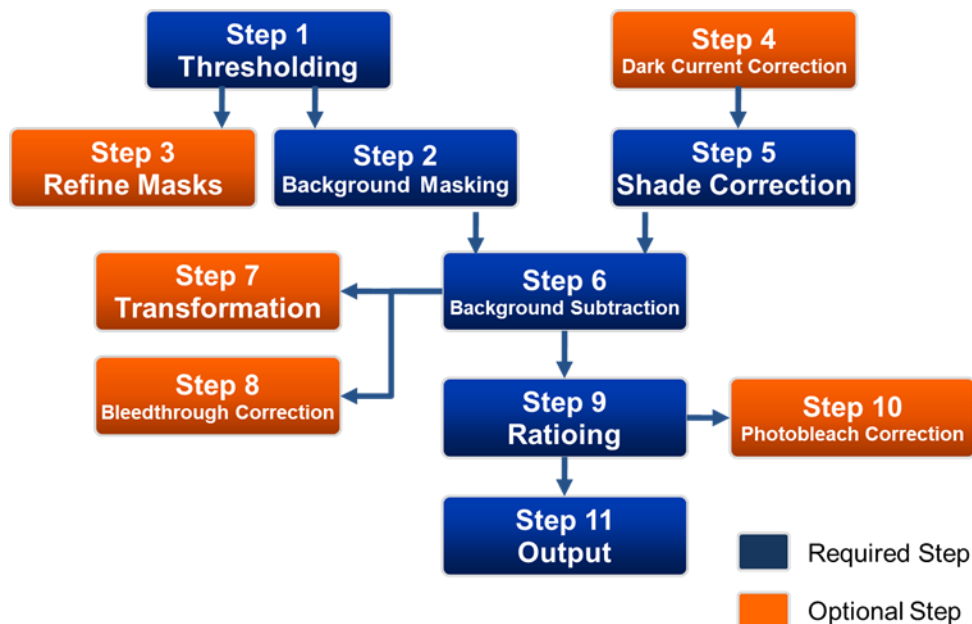

Figure 1: Biosensors Package Workflow
- Select checkboxes of the steps you would like to run. A step that depends on other step(s) cannot be selected until the step(s) on which it depends have been selected (see Figure 1: Biosensors Package Workflow).